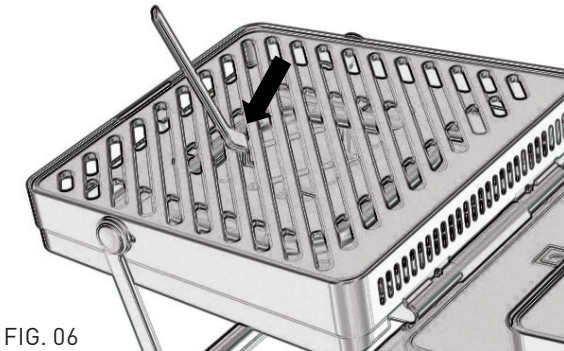

FIG. 06
- 1. Use the grate removal tool supplied and insert into one of the slits nearest the center of the grill. (Fig. 06)